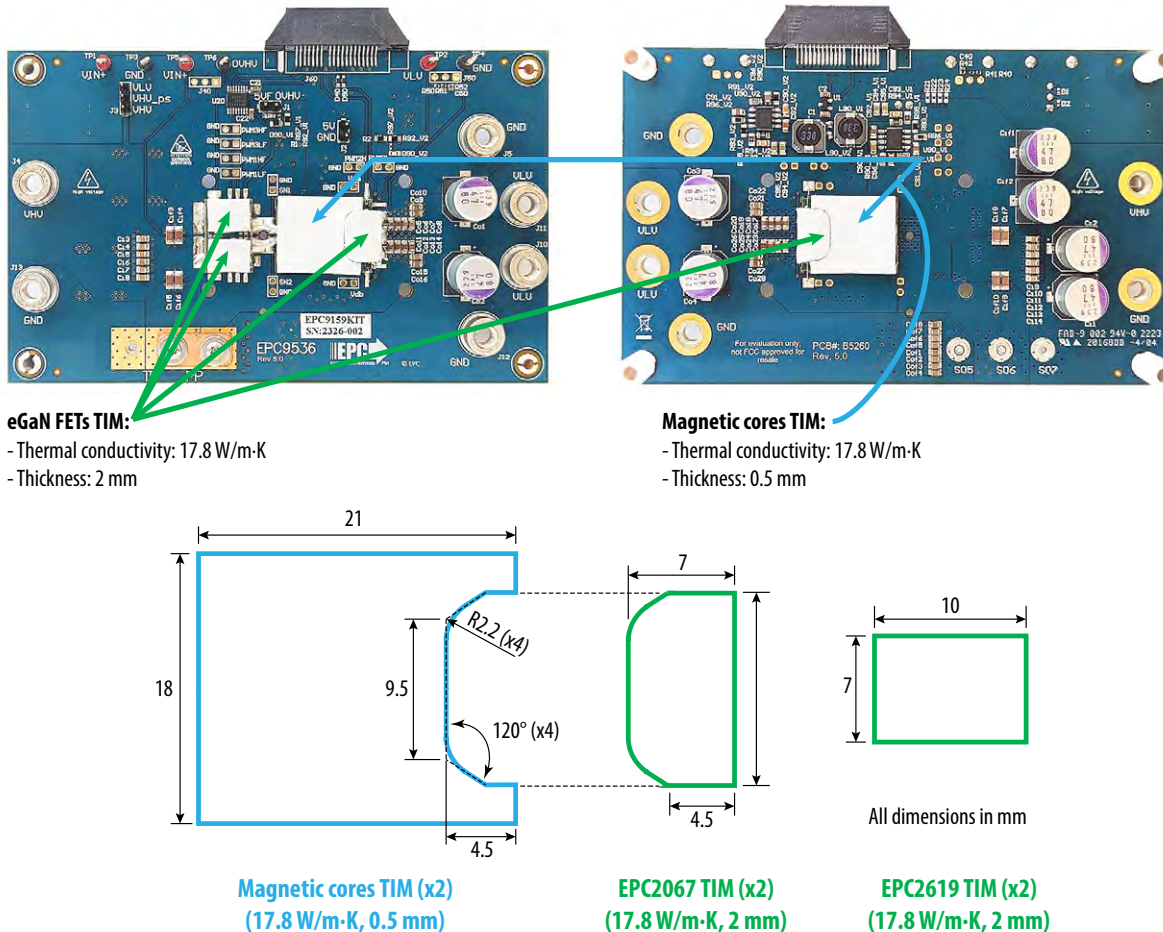

Figure 11: Location and details of the thermal interface materials used in the EPC9159KIT
- Thermal interfaces for the eGaN FETs (t-Global Part Number: TG-A1780), see figure 11 for details
- Thermal interfaces for the inductor and transformer cores (t-Global Part Number: TG-A1780), see figure 11 for details